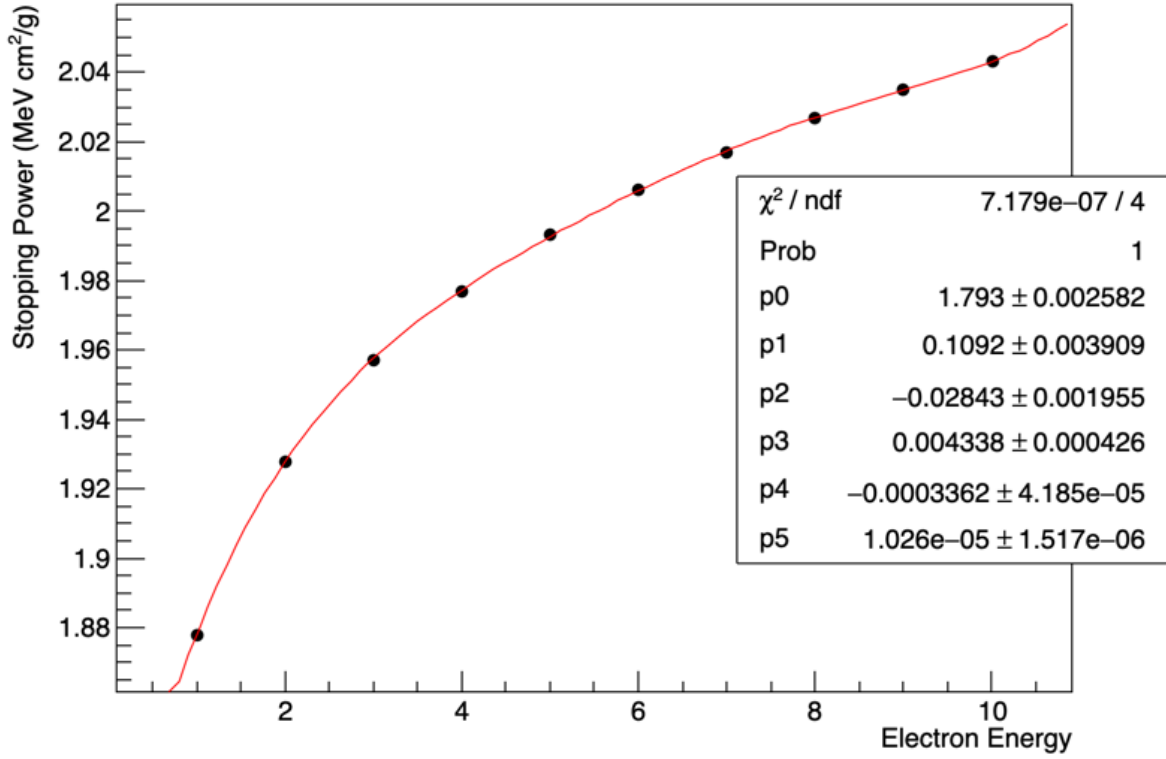

Figure 1: Stopping power for electrons as a function of energy in Fe. Data are from ESTAR and are fit to a 5-degree polynomial.
- α is the collision stopping power for electrons in Fe. It is a function of electron energy and is $2.043 \text{ (MeV cm}^2\text{)}/\text{g} = 3.273 \times 10^{-13} \text{ (J cm}^2\text{)}/\text{g}$ for a 10 GeV electron using ESTAR. The ESTAR data along with a 5-degree polynomial fit used to calculate α as a function of energy is shown in Fig. 1. Care should be exercised when extrapolating outside the 1-10 GeV range.